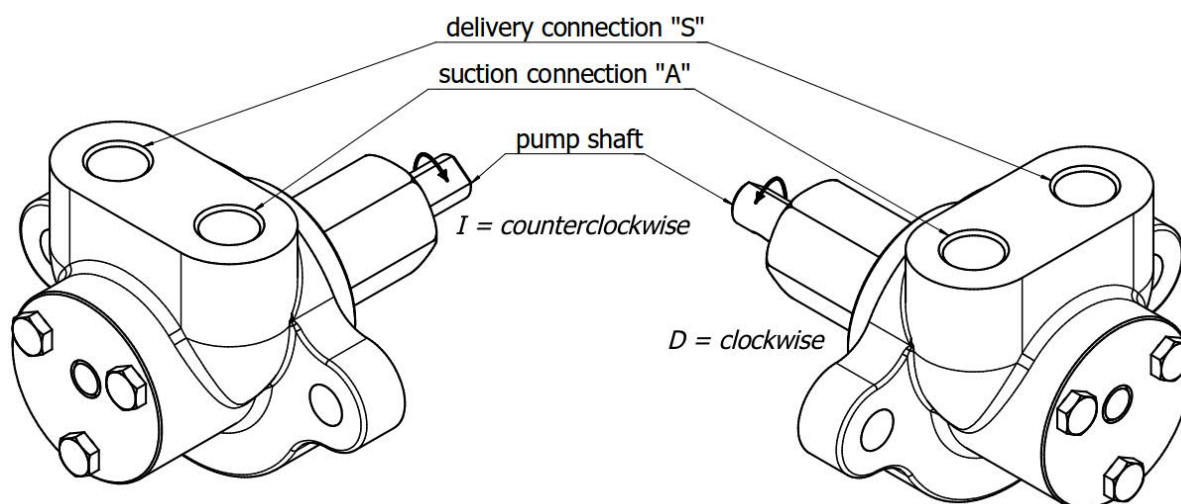

Fig. 1.
- The suction connection (see Fig. 1) of the pump is filled with oil. Then the suction line is connected to thread connection „A“.
- The pressure/delivery line connect to thread connection „S“. (Fig. 1)